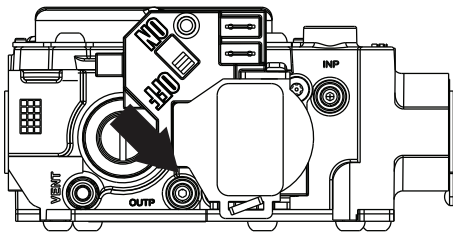

Fig. 7 – Control Switch to OFF
5. Turn the control switch on the gas control to the OFF position and wait 5 minutes, see Fig. 7. Then smell for gas, including near the floor. If you smell gas, STOP! Follow “B” on furnace label. If you don’t smell gas, go to next step.
- Turn the switch on the gas control to the OFF position, see Fig. 7.